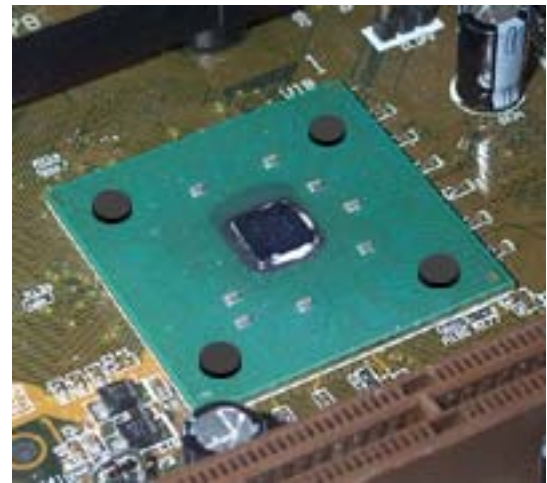

Figure 8
- ❑ Install the 4 neoprene pads as shown figure 8. This step is only necessary if the processor core is exposed.